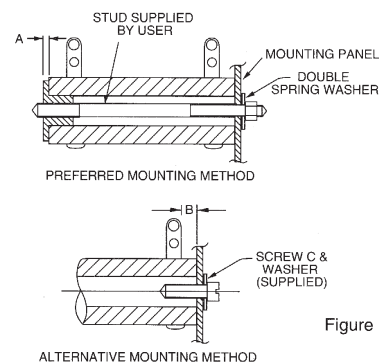

Figure 13
**Table 8 Mounting plug dimensions (mm)** See Fig. 13.